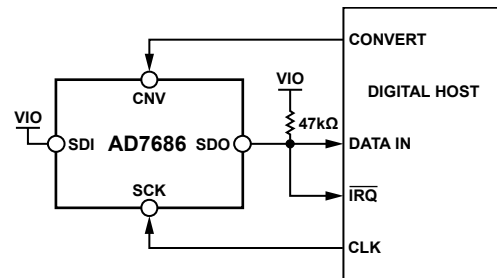
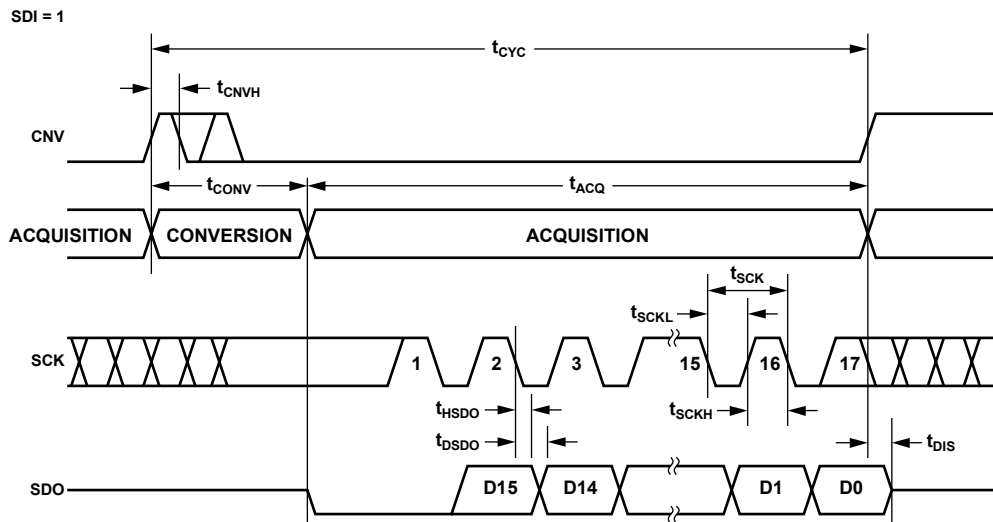
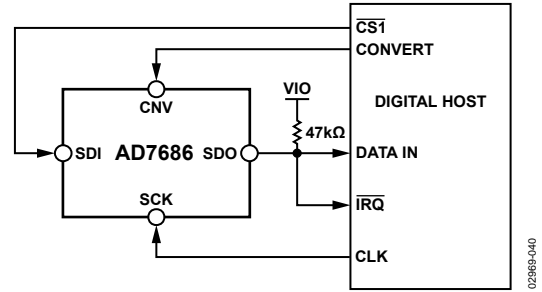
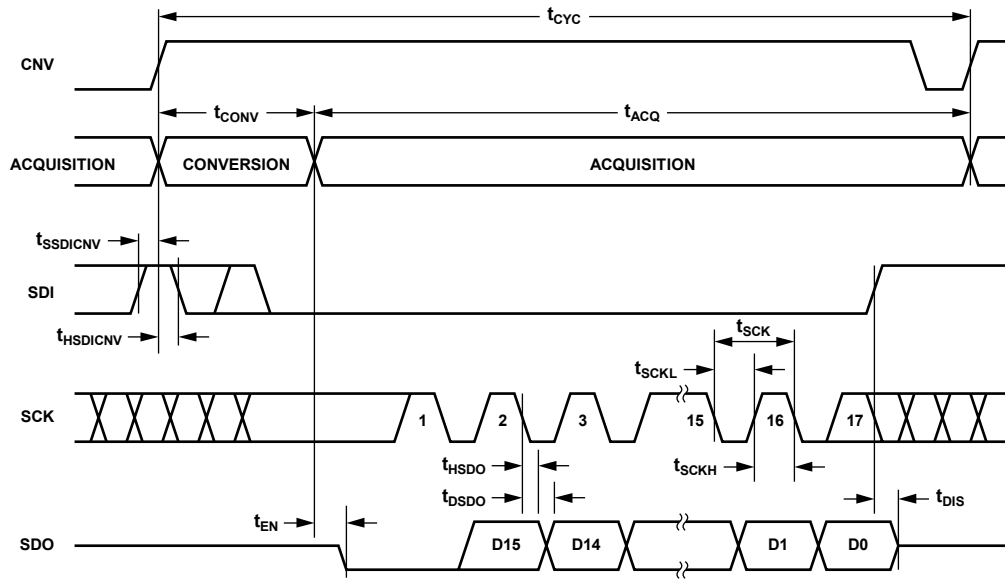

Figure 35.  $\overline{\text{CS}}$  Mode 3-Wire with Busy Indicator Connection Diagram (SDI High)
Figure 36.  $\overline{\text{CS}}$  Mode 3-Wire with Busy Indicator Serial Interface Timing (SDI High)
Figure 39. CS Mode 4-Wire with Busy Indicator Connection Diagram
Figure 40. CS Mode 4-Wire with Busy Indicator Serial Interface Timing
- In  $\overline{\text{CS}}$  mode, if CNV or SDI is low when the ADC conversion ends (see Figure 36 and Figure 40).
This mode is generally used when a single AD7686 is connected to an SPI-compatible digital host having an interrupt input. The connection diagram is shown in Figure 35, and the corresponding timing is provided in Figure 36.
This mode is usually used when a single AD7686 is connected to an SPI-compatible digital host, which has an interrupt input, and when it is desired to keep CNV, which is used to sample the analog input, independent of the signal used to select the data reading. This requirement is particularly important in applications where low jitter on CNV is desired. The connection diagram is shown in Figure 39, and the corresponding timing is provided in Figure 40.